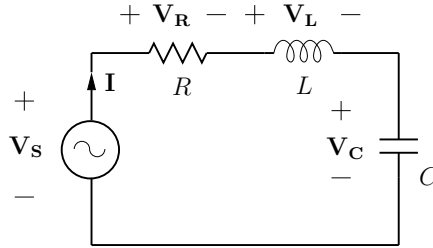

Figure 11: A series RLC circuit.
- (i) Bias-independent components: Consider the *RLC* circuit shown in Fig. 11. Here, for a given frequency ω , the impedances due to R , L , and C can be computed as R , $j\omega L$, and $-j/\omega C$, respectively, and they are independent of any DC bias that the source may have. In such cases, we can perform AC analysis directly, i.e., without a prior DC analysis.